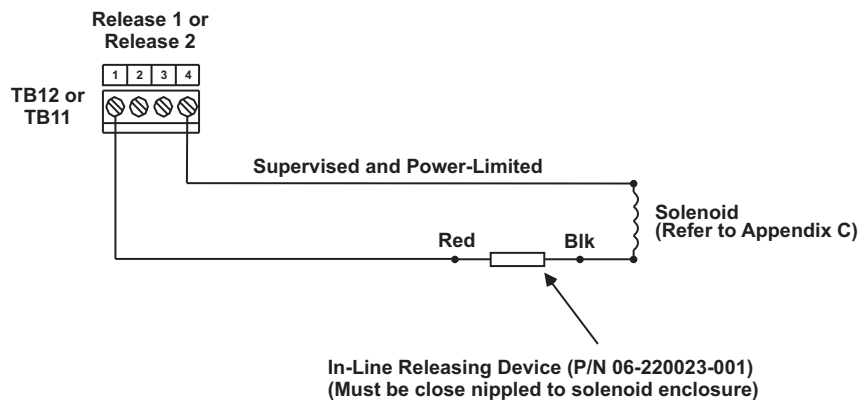

Figure 2-22. Releasing-Circuit Wiring for Single Solenoid
Each releasing circuit can be configured to activate either one Fenwal control head or one pre-action-sprinkler or deluge-sprinkler valve. Total current output of the FENWALNET 6000 power supply must not exceed 5.4 A. Figure 2-22 shows a releasing circuit wired for single-control-head or single-solenoid-valve actuation.
**Note:** Ensure proper installation when using the In-Line Releasing Device, including polarity orientation. Refer to Figure 2-22 below for installation and polarity orientation. The panel release circuit must also be programmed for “Power-Limited” operation. Refer to the *FCS Configuration Software User’s Guide*, P/N 06-236529-002, to configure the releasing circuits for single-control-head or single-solenoid-valve actuation.